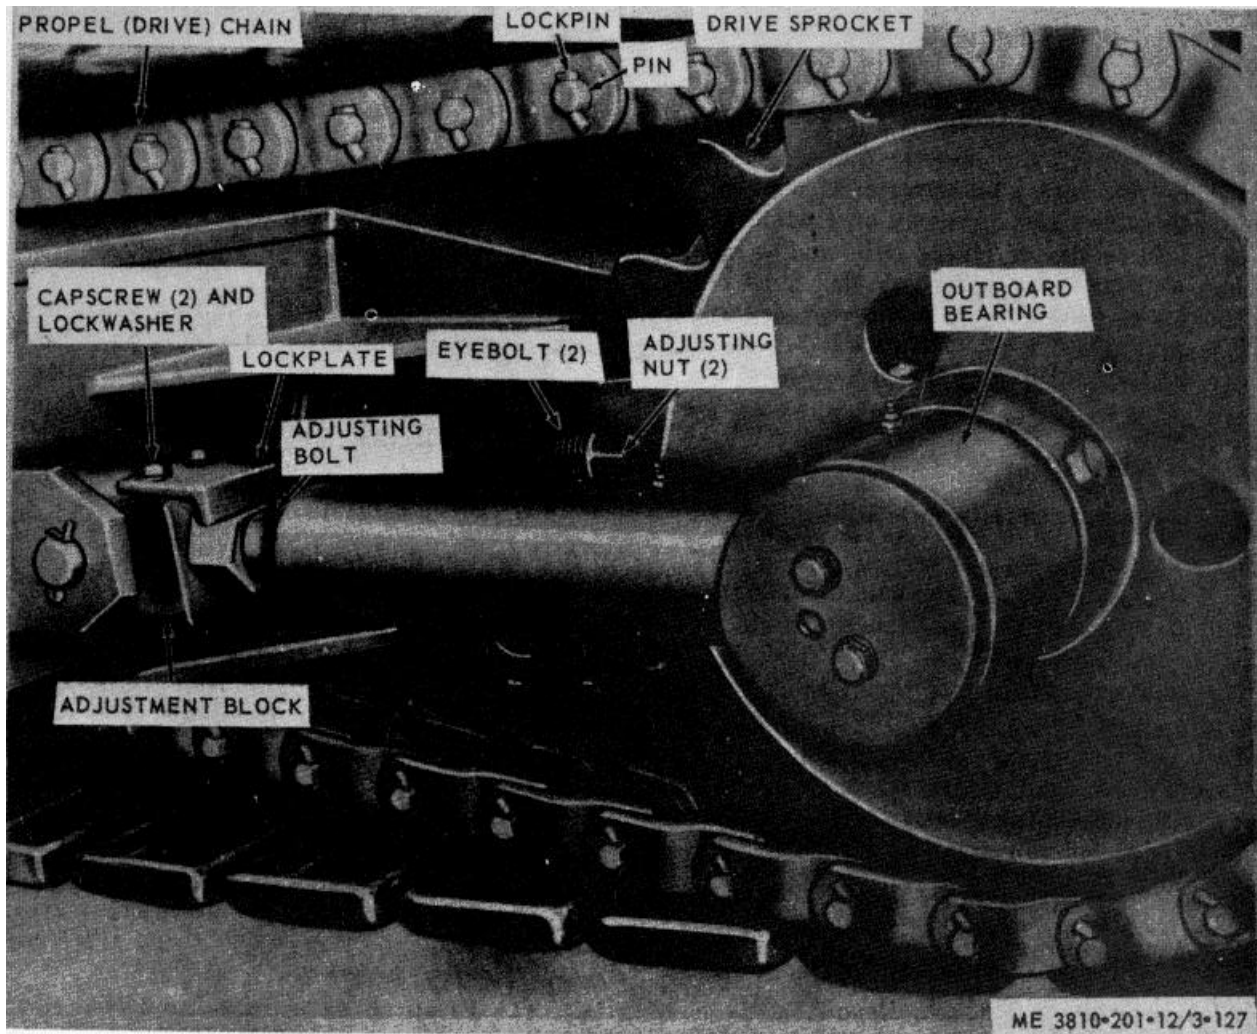

Figure 3-127. Drive (propel) chain, removal and installation.
(1) Remove lockpin (fig. 3-127) from pin in drive chain, and drive pin from chain link.
(2) If necessary to give slack, remove two capscrews and lockwashers from lockplate on adjustment block, remove lockplate, then turn adjusting bolt until chain has enough slack to allow pins easy removal.
(3) Loosen adjusting nuts on two eyebolts one on inside the other on outside of frame.
(4) Remove drive chain.
(5) Remove remaining drive chain in similar manner.